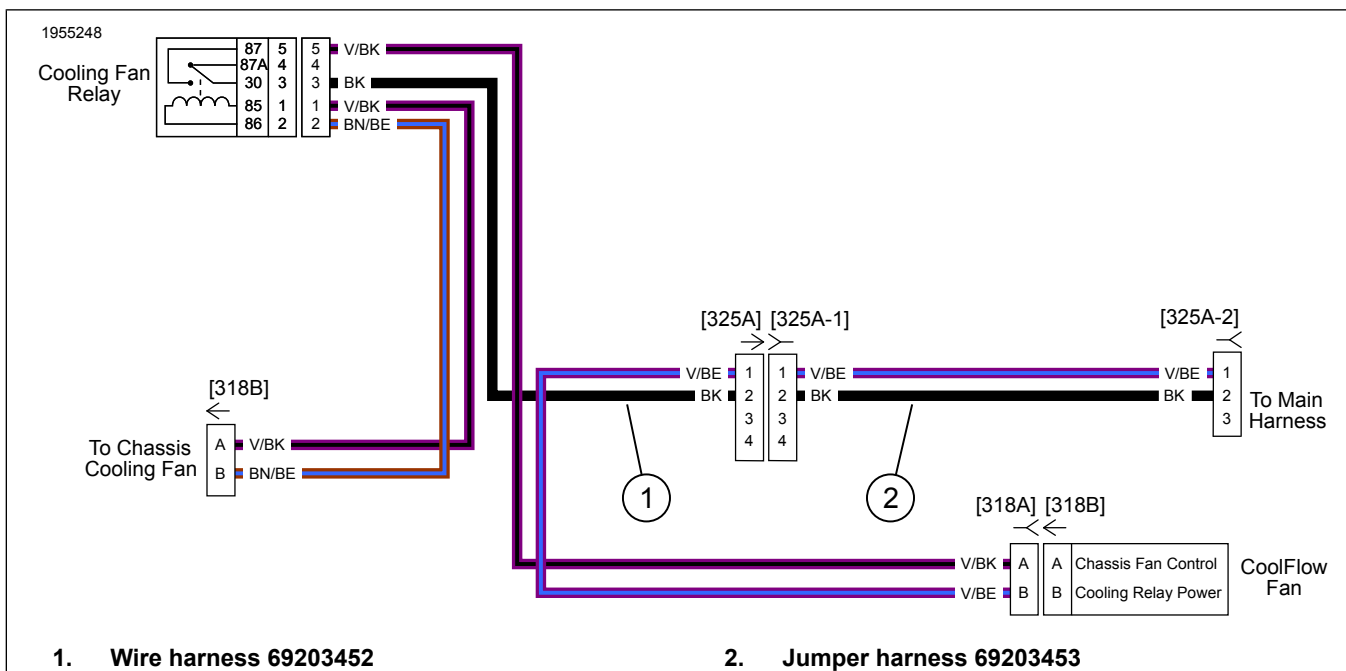

Figure 9. Wire Schematic for NON Center-Cooled Vehicles
- b. See Figure 9. Connect Jumper Harness (Part No. 69203453) 3-way [325A-2] to vehicle's P&A [325B].